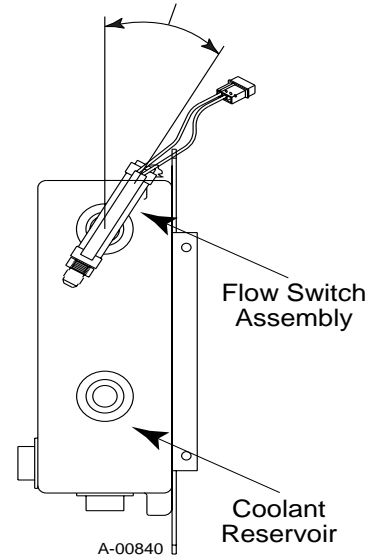

Figure 4-6 Flow Switch Orientation
1. Remove the Enclosure Cover per Section 4.04. For parts location information, refer to Figure 4-6, In-Line Filter/Flow Switch Assembly.